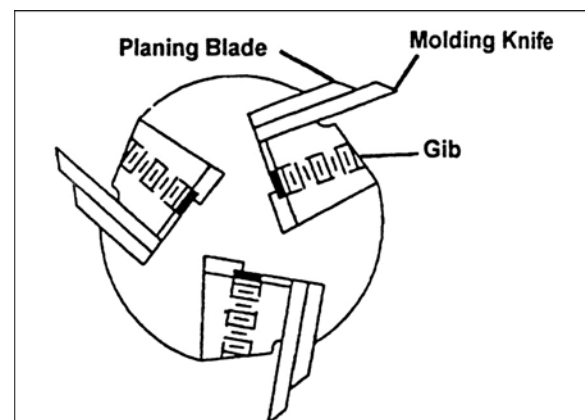

Figure 15
- Remove lock bar. Note: With 2" wide and under molding cutters, the planing knives remain in place (Figure 15).